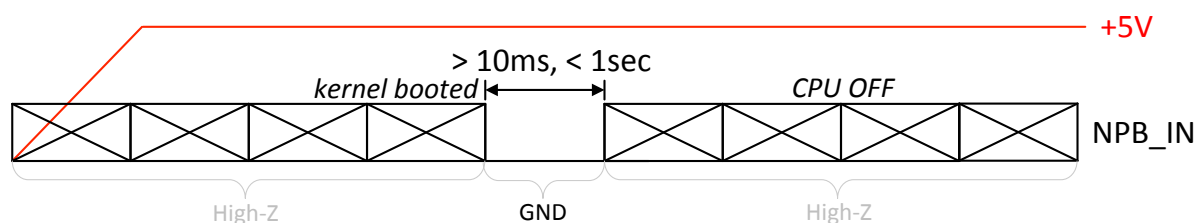

Figure 23 Normal OFF
- As soon as linux is booted (typically 30s), the NPB_IN signal is monitored by software. When NPB_IN is pulled low externally for more than 10ms but less than 1s, the Stream810 will stop playback, deregister on the network and shut down. The Stream810 will then issue a power off command to the power management IC. The complete shutdown sequence may take 10 seconds. VDD_1V8 and 3V3_OUT drops to zero volts after completion of the shutdown sequence. See *Figure 23*.
The recovery mode is triggered by pulling NPB_IN low for >3s and <10s, rather than only for 2s for normal power up. See *Figure 26*. Software recovery can also be initiated after the Stream810 has been powered off, see *Figure 23*. If no mass storage device is connected or no software image file found, the module will boot up normally. This will avoid malfunction if the NPB_IN is held low for >3s and <10s accidentally, for example if the customer keeps the power button pressed too long.